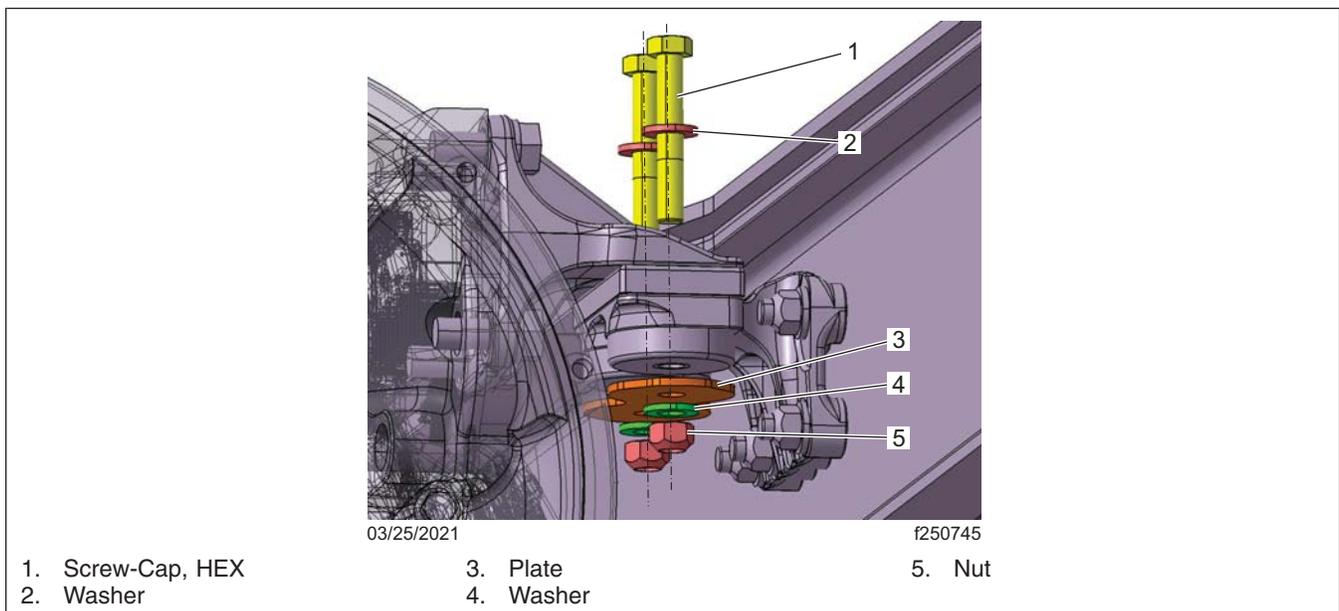

Fig. 22, Nodal Rear Engine Supports
6. Lower the back of the engine and install the isolator bolts. Torque to 203 lbf-ft (275 N-m), alternating between the front and rear bolts, to prevent binding. See Fig. 22.